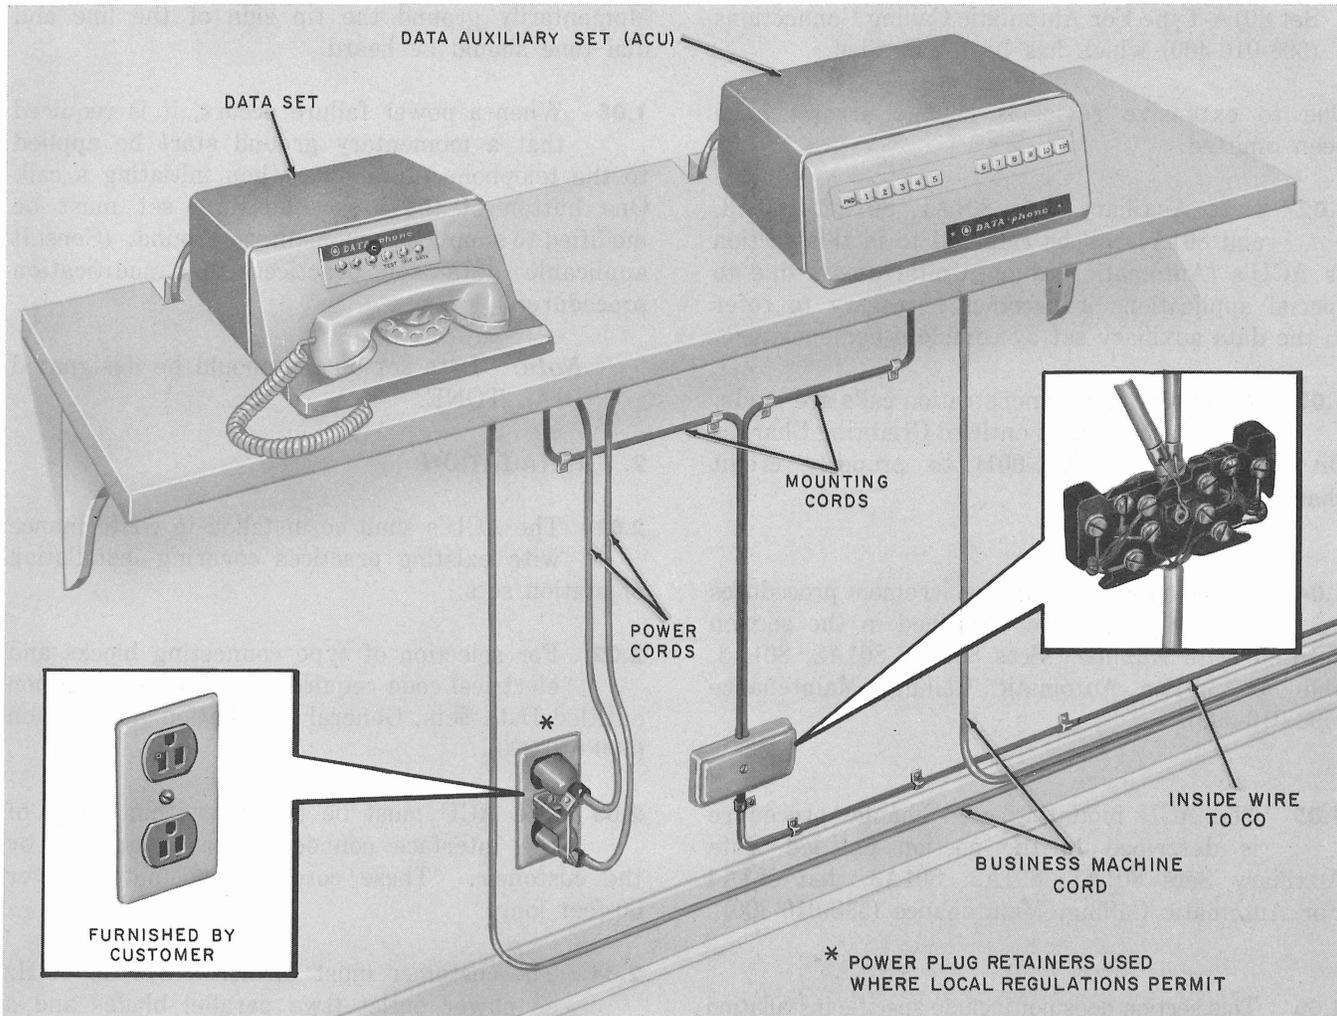
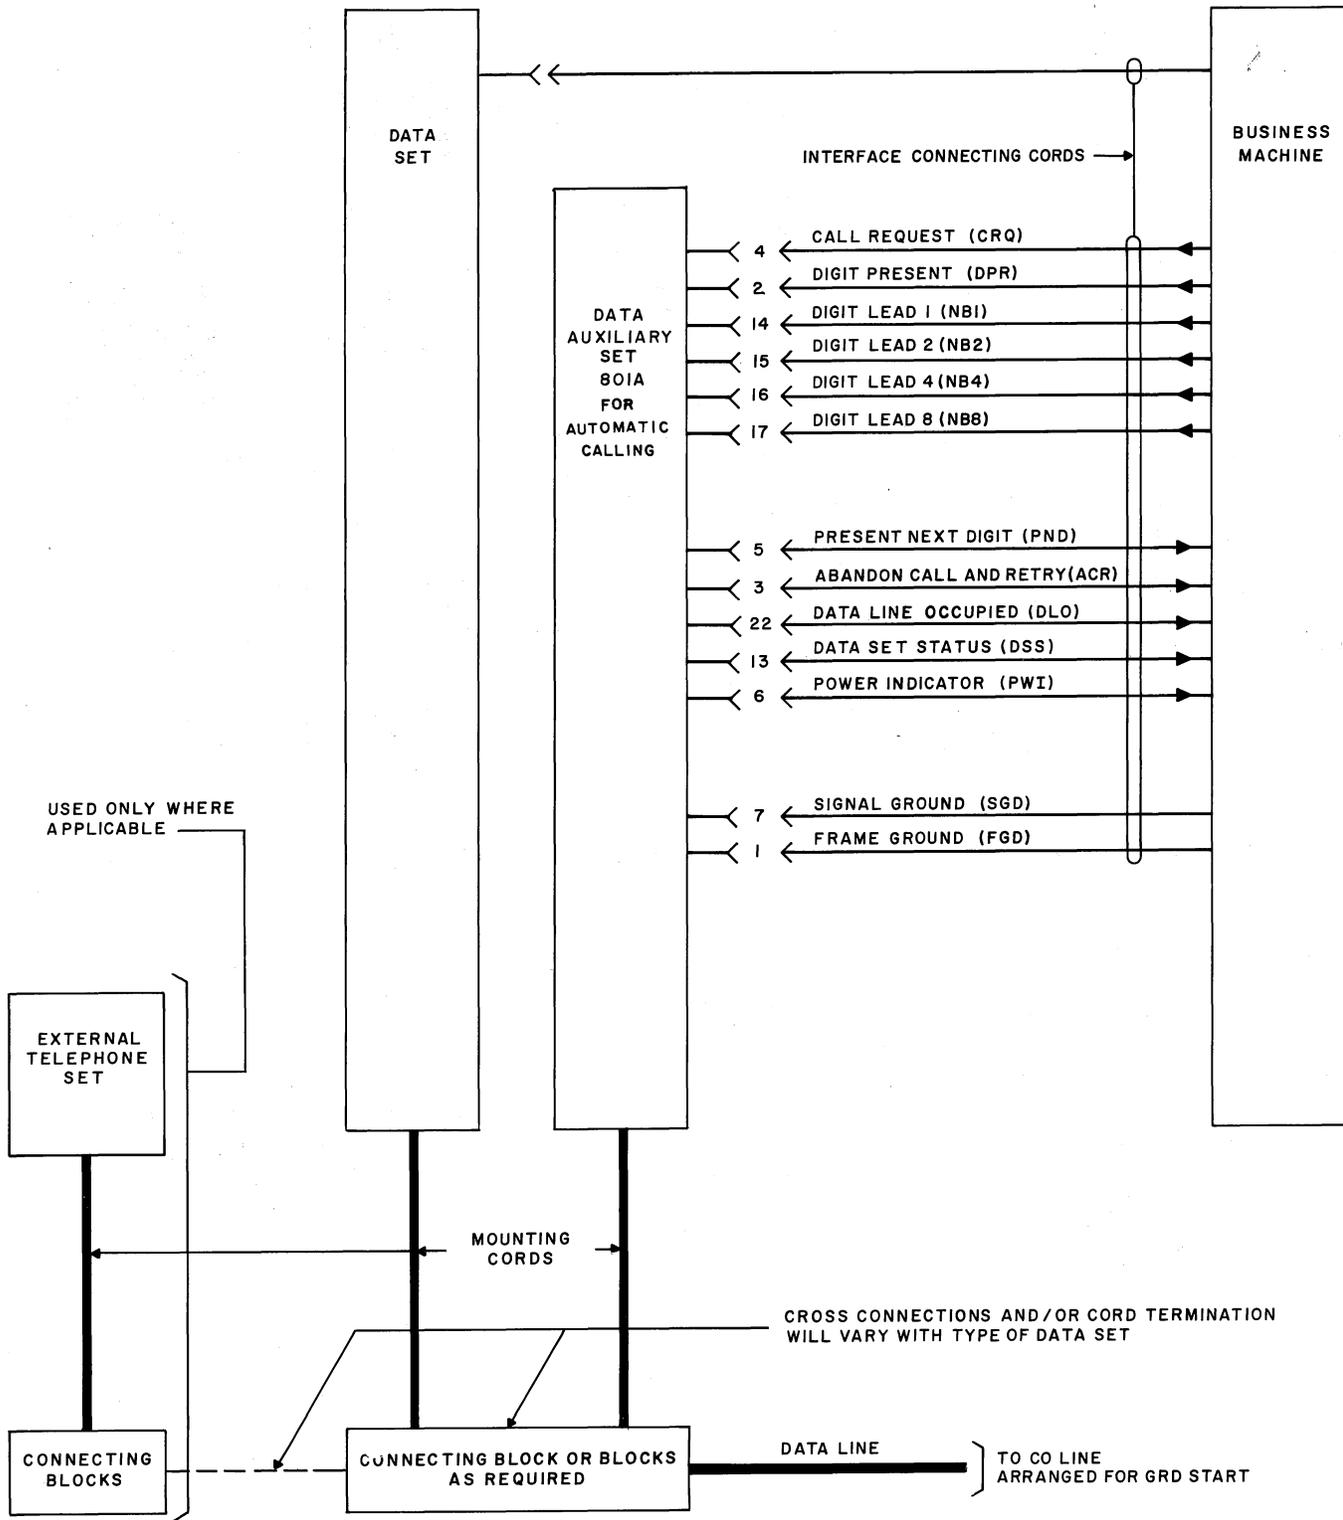

Fig. 1—Main Components of a Typical Installation Using a Single ACU and Integral Data Set
Fig. 3—Block Diagram of a Typical Installation
2.05 Fig. 1 and 2 illustrate the main components and the arrangement of these components in typical installation. Fig. 3 illustrates a block diagram of a typical installation.